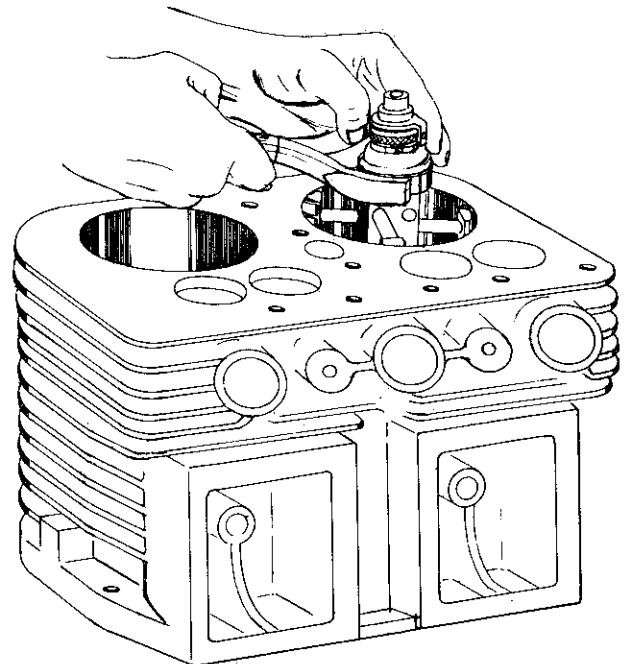

Figure IV-16 Grinding Cylinder Ridge
- a. To remove the ridge at the top of worn cylinder bores to prevent damage to new rings (see fig. IV-16). This is usually accomplished with a ridge cutter.